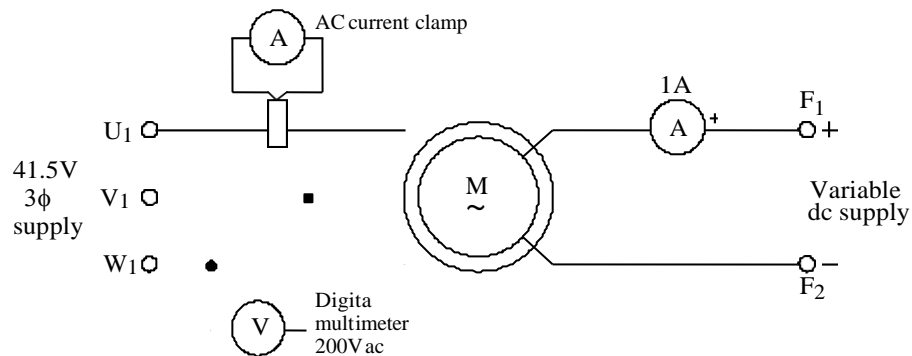

Figure 2
2. Connect the synchronous motor as shown in figure 2.